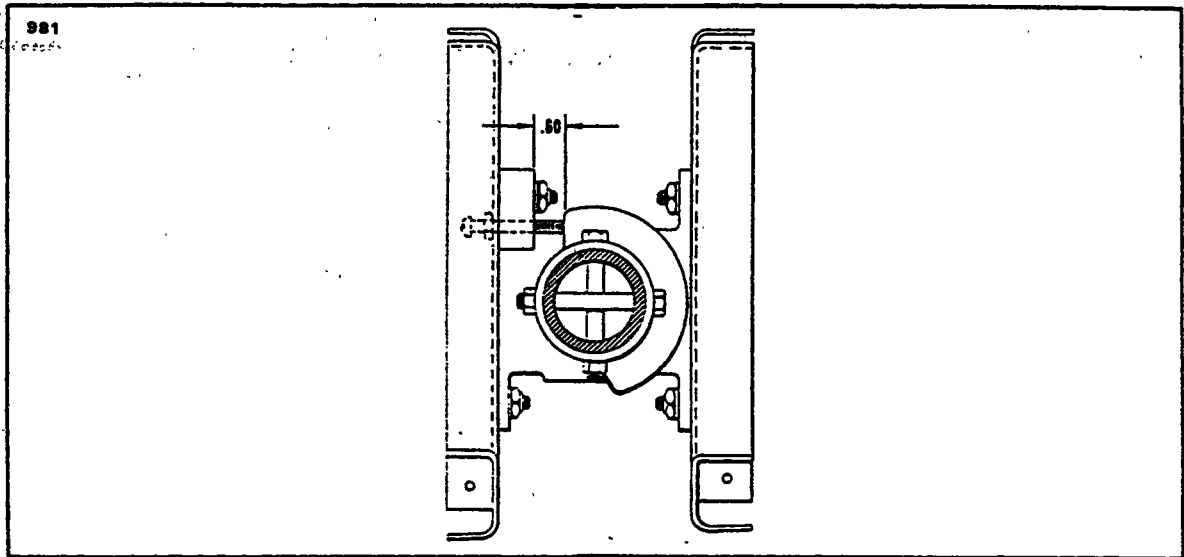

Figure 5-19. Flap Step Adjustment.
- c. To adjust the flap up stop and step lock, loosen the jam nut of the right torque tube stop screw, located in the floor opening along the outer end of the flap torque tube, and turn the stop screw to obtain approximately .60 of an inch between the stop fitting and the bearing block as measured along the top side of the screw. (Refer to Figure 5-19.) It may be necessary to loosen the adjustment screw of the left stop.